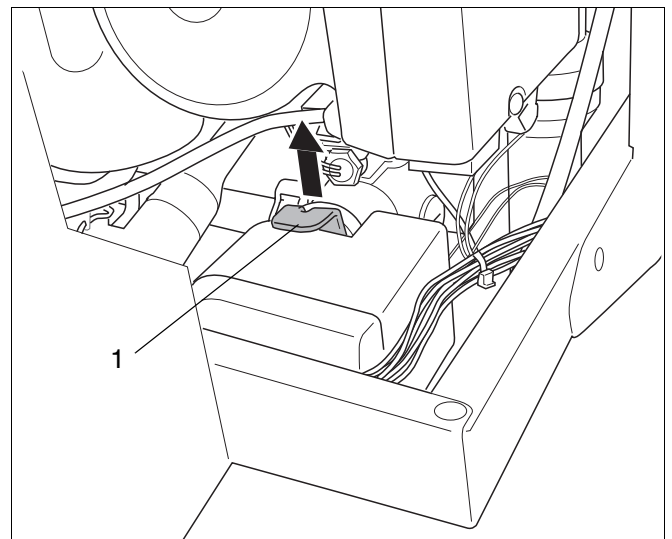

fig. 101 Remove securing pin
- Remove the securing pin (→ fig. 101, item 1) and remove the servomotor.
- Remove the securing pin (→ fig. 101, item 1).